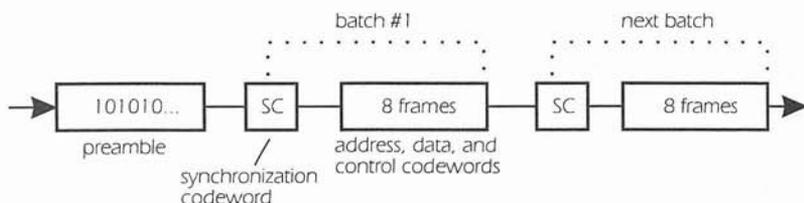

Figure 3-2: Page Signal Format
Before describing a set up for and the operation of a two-way POCSAG QSO, let's take one more look at the format of the POCSAG signal (Figure 3-2). The reason for this is that we'll need to decide where to place the address codeword for each transmission. The transmission format of the code is a preamble of 576 bits - alternating ones and zeroes - followed by one or more batches of codewords. Each batch consists of a 32 bit synchronization codeword (SC) followed by eight frames, each consisting of two 32 bit codewords. Codewords are defined as synchronous, idle, address, and data. The format of the data codeword differs slightly from the rest, but all codewords contain ten check bits for error detection and correction (See Chapter 2 for details).